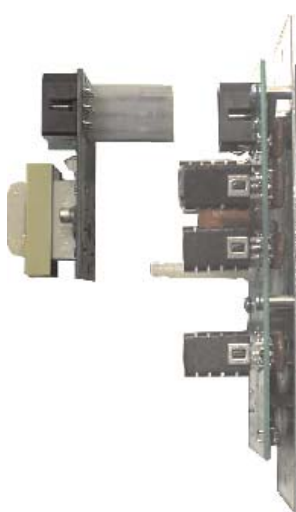

figure 31
4. Locate the thermostat terminal block, marked T'STAT INPUT, found on the back of the board (see figure 31).